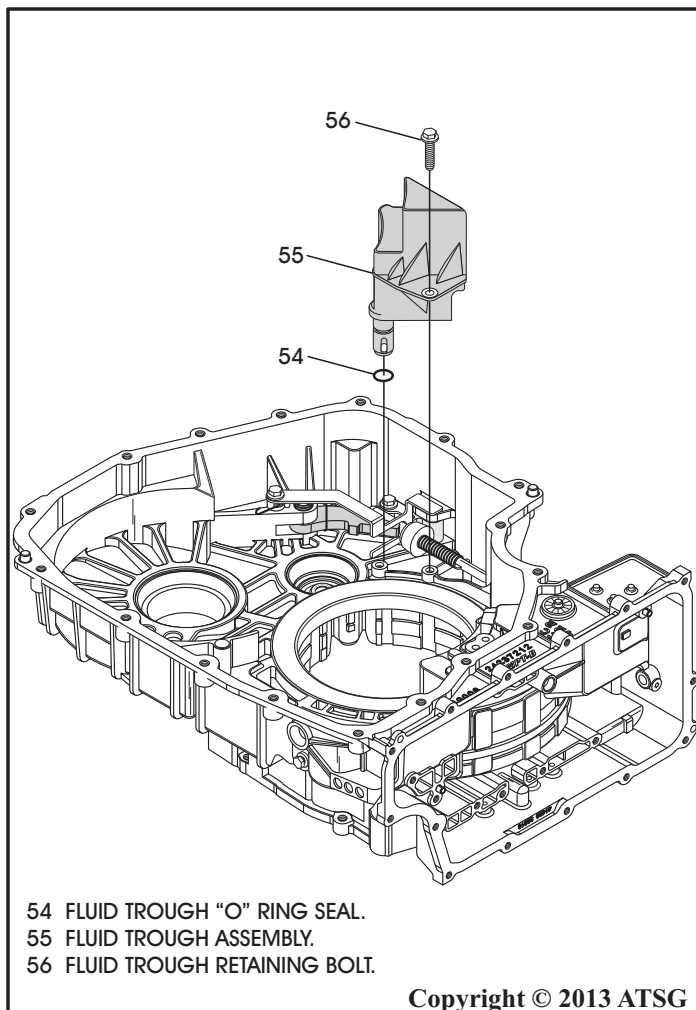

Figure 71
58. Remove the fluid trough retaining bolt, as shown in Figure 71.
59. Remove the fluid trough assembly, as shown in Figure 71.
60. Remove and discard the fluid trough "O" ring seal, as shown in Figure 71.